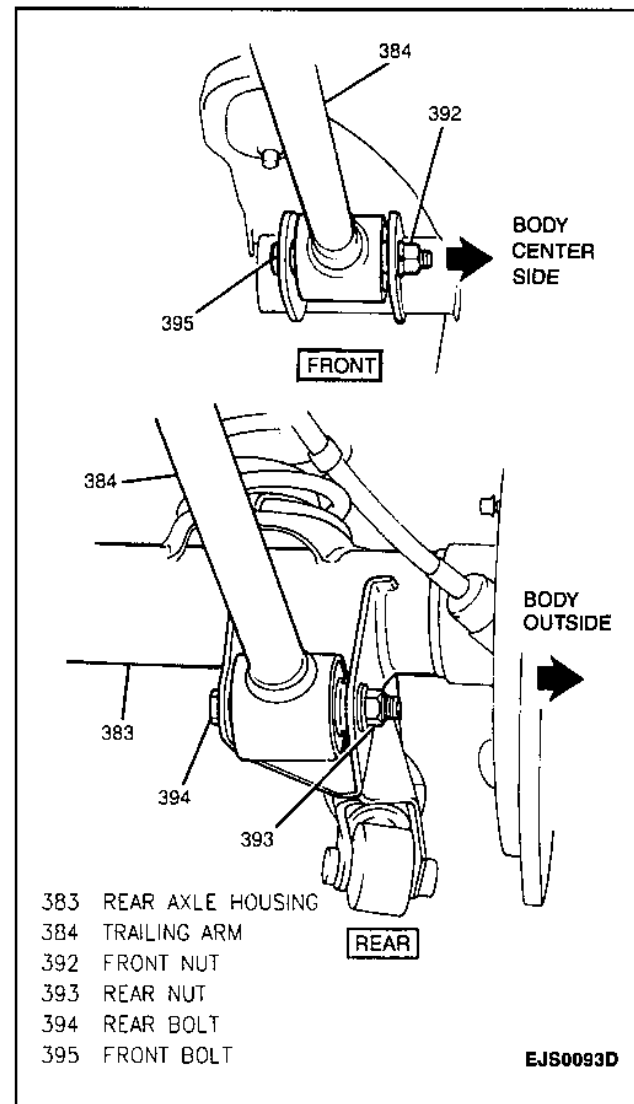

Figure 9—Trailing Arm Installation
1. Trailing arm to vehicle body and rear axle housing; secure trailing arm with front and rear nuts, bolts and washers (Figure 9).